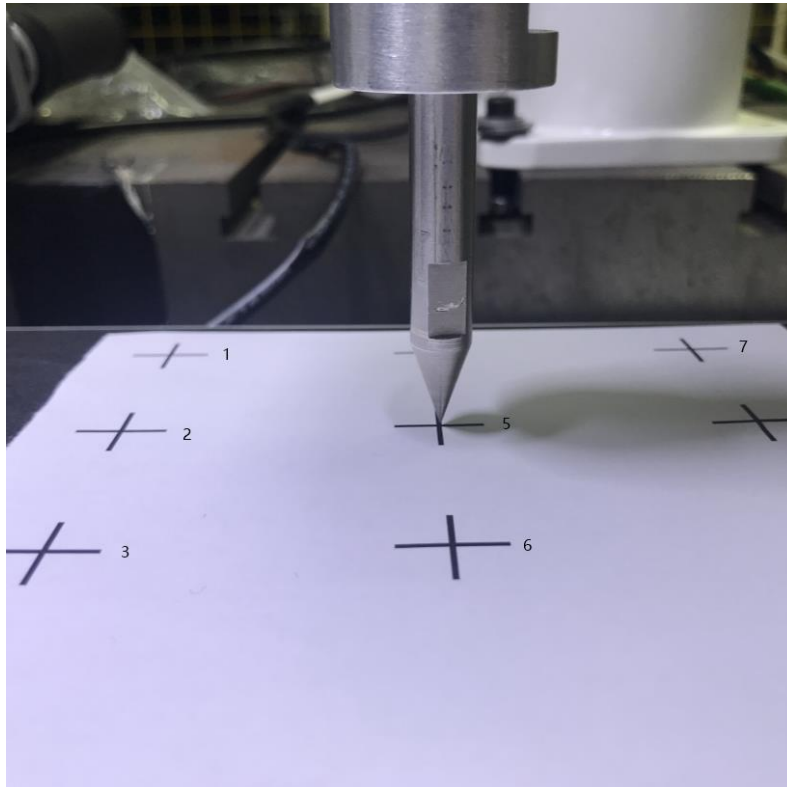
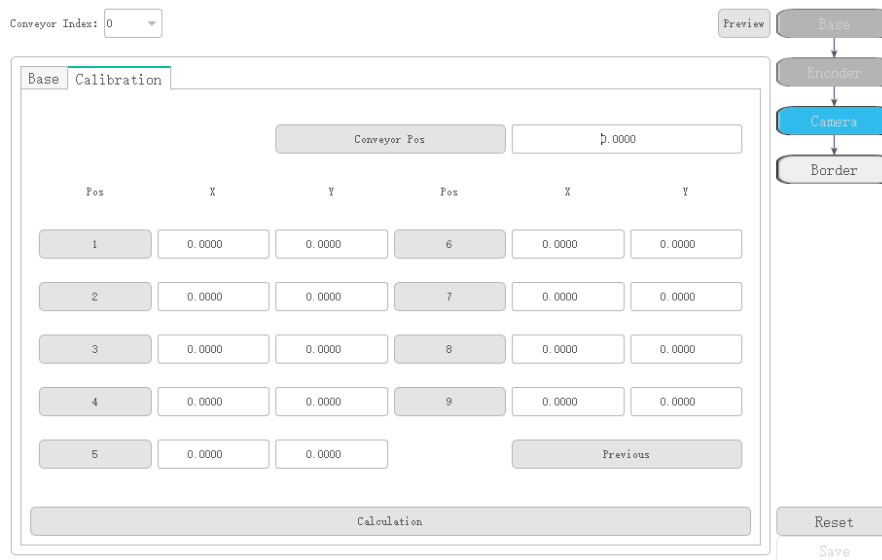

Figure 3.18 Vision calibration
Figure 3.19 Get the Cartesian coordinates of the nine points on the calibration board
7. Enable the motor and jog the robot to the corresponding nine points on the calibration board and click the right index on the calibration page respectively as shown in Figure 3.18 and Figure 3.19.